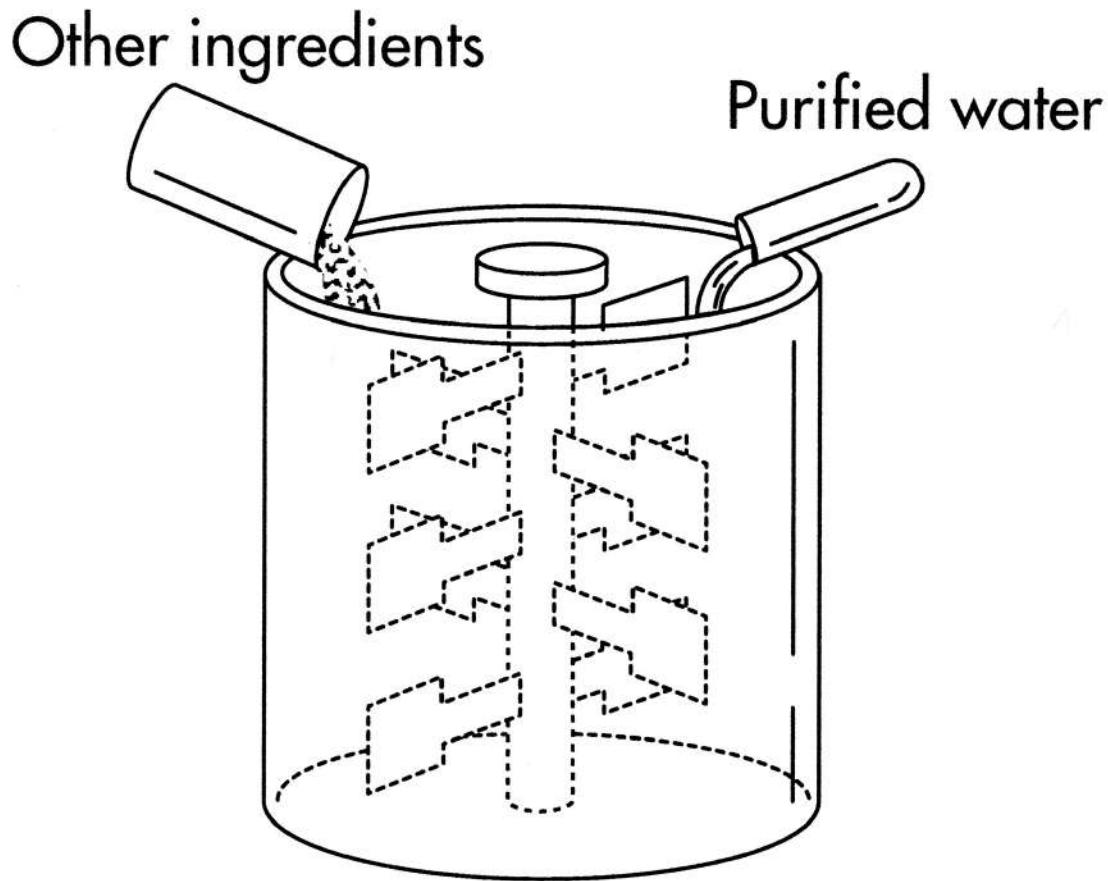

Figure 1. Purified water and other purchased ingredients, like avobenzone and aloe, are mixed together.
6. Two or three heavily grooved crusher rollers break the cane and extract a large proportion of the juice, or swing-hammer type shredders shred the cane without extracting the juice (see figure 1). Revolving knives that cut the stalks into chips supplement the crushers. A combination of two, or even all three, methods may be used. The pressing process involves crushing the stalks between the heavy and grooved metal rollers to separate the fiber (bagasse) from the juice that contains the sugar.
Figure 1. In the United States, harvesting of both cane and sugar beets is done primarily by machine, although in some states it is also done by hand. The harvested cane stalks and beets are mechanically loaded onto trucks or railroad cars and taken to mills for processing into raw sugar. Once there, they are cleaned, washed, milled to extract their juice, filtered, and purified.
2. Ingredients are purchased from outside sources and mixed with the purified water according to the recipe of the final formulation (see figure 1). The recipe is recorded on a vat sheet that lists the exact measurements for each ingredient. Measurements are converted from the initial 10-gallon (38-L) formulation used in the development stage to larger quantities for commercial use.